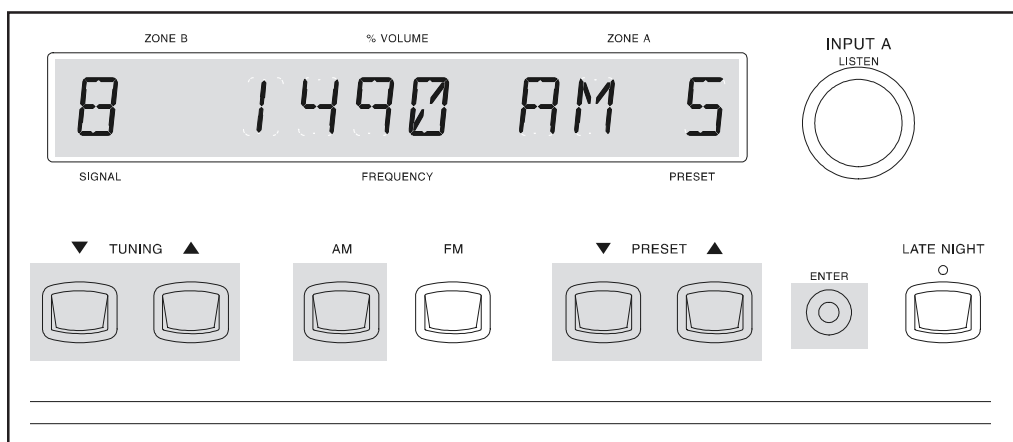

Figure 30
1. Select TUNER with the front panel INPUT A switch or the Remote Control TUNER pushbutton. Refer to Figure 30 & 31.